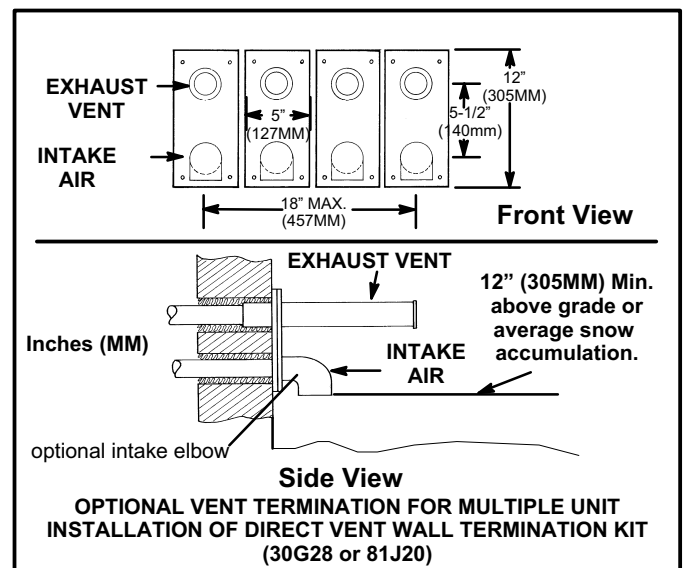

FIGURE 36
8. A multiple furnace installation may use a group of up to four terminations assembled together horizontally, as shown in figure 36.